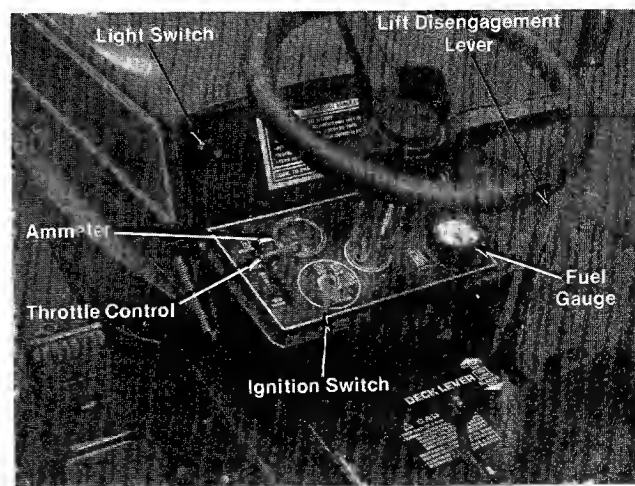

FIGURE 6. CONTROLS
a. Throttle Control. The throttle control is used to regulate the engine speed and choke the engine. The engine should be operated from $\frac{3}{4}$ to full throttle when operating the cutting deck or snow thrower (optional). See figure 6.
b. Gear Shift Lever. The gear shift lever is used to shift into one of four **Forward Gears**, **NEUTRAL** or **REVERSE**. See figures 6 and 7.